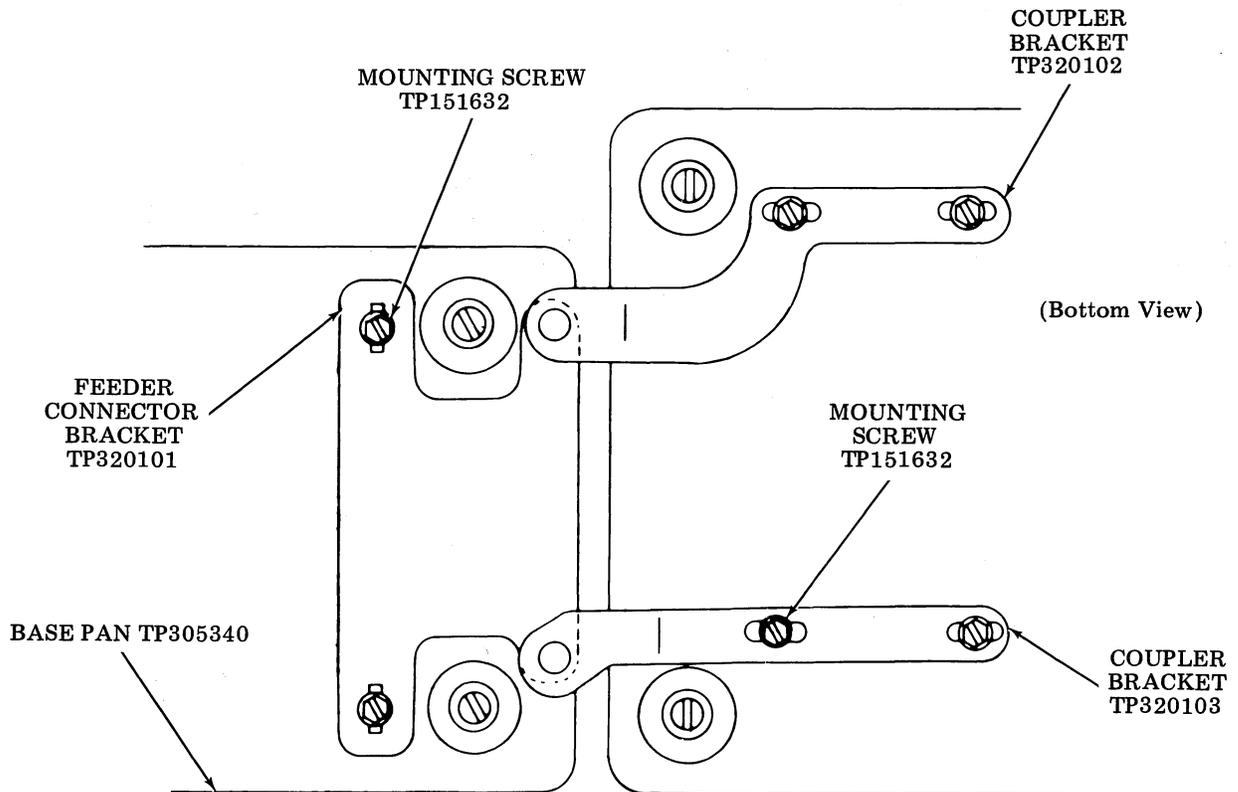

Figure 5 - Reader and Feeder Base Pans and Coupler Brackets
(b) Attach the TP320101 feeder connector bracket to the reader base pan (Figure 5) with two TP151632 screws, TP2191 lockwashers, and TP7002 flat washers (supplied in cloth bag). Set the bracket to the center of its adjusting range and tighten the screws friction tight.
(f) Couple the reader and feeder together by mating the coupler brackets on the feeder base pan with the connector bracket on the reader base pan (Figure 5).
- (f) Couple the reader and feeder together by mating the coupler brackets on the feeder base pan with the connector bracket on the reader base pan (Figure 5).